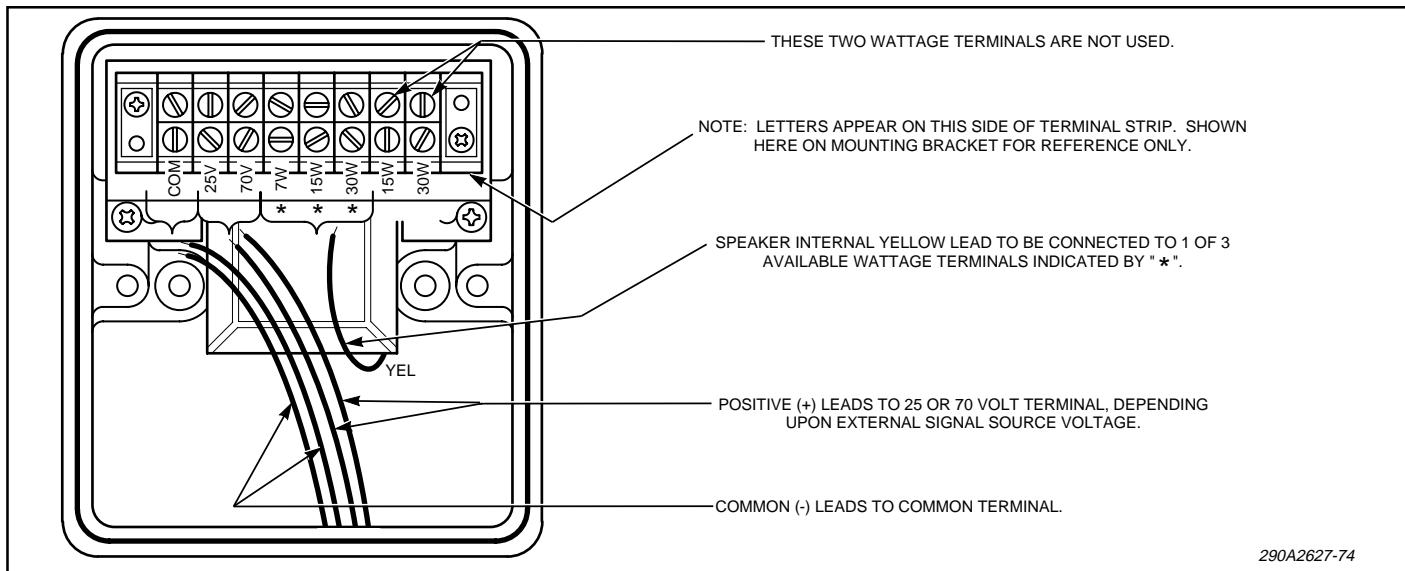

Figure 3. Internal Multi-tap Wiring Set-up.
3. The AM302 and AM302GCX are factory configured for 30 W operation. If a different wattage terminal is desired, remove the wire leading to the speaker from the terminal marked 30 W and connect it to the terminal marked 7 W or 15 W as indicated in figure 3.
For proper operation, the speaker wire should be connected to one (1) of these terminals as indicated in figure 3. The remaining two (2) wattage terminals are not used.
- A. After installation is complete, be sure to test the system to verify that each speaker operates satisfactorily. If it is found that the unit is too loud for its location, a lower wattage tap may be selected. Carefully remove the housing cover and move the speaker internal yellow lead to a lower wattage tap (see Figure 3). Reinstall the housing cover and retest.